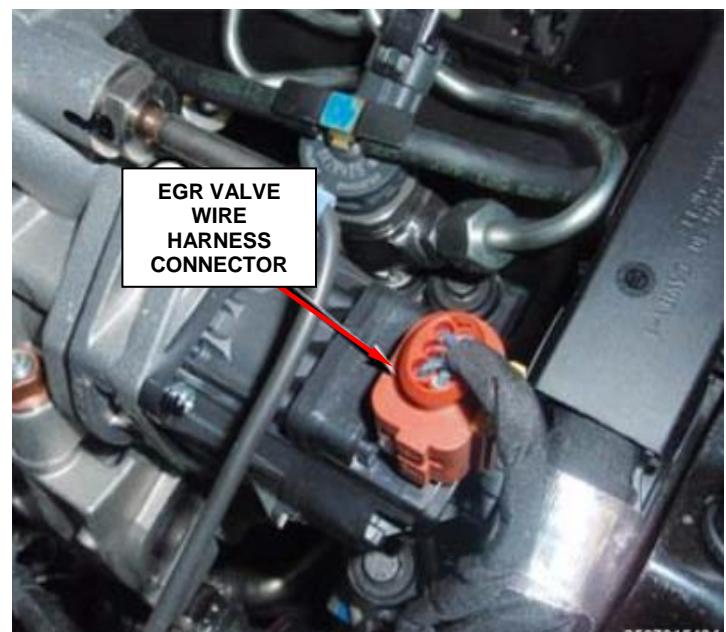

Figure 33 – EGR Connector
14. Disconnect the EGR valve wire harness connector (Figure 33).
27. Connect the EGR valve wire harness connector (Figure 33).